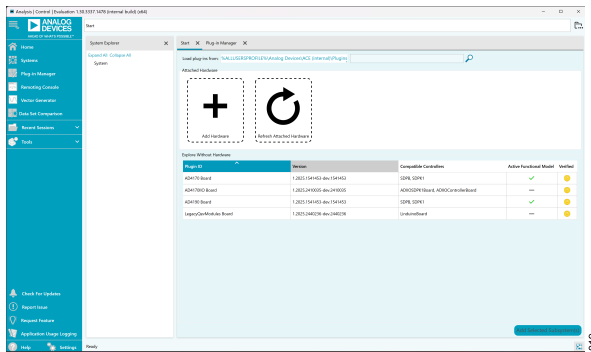

Figure 19. ACE Home Page
1. From the **Start** menu of the PC, select **All Programs > Analog Devices > ACE > ACE.exe** to open the ACE software main window, as shown in Figure 19.
2. If the EVAL-AD4195-4ARDZ is not connected to the USB port by the SDP-K1 when the software launches, the **AD4195 Board** icon does not appear in the **Attached Hardware** section in ACE (see Figure 19). To make the **AD4195 Board** icon appear, connect the EVAL-AD4195-4ARDZ and the SDP-K1 to the USB port of the PC, click **Refresh Attached Hardware**, wait a few seconds, and then follow the instructions in the dialog box that opens.